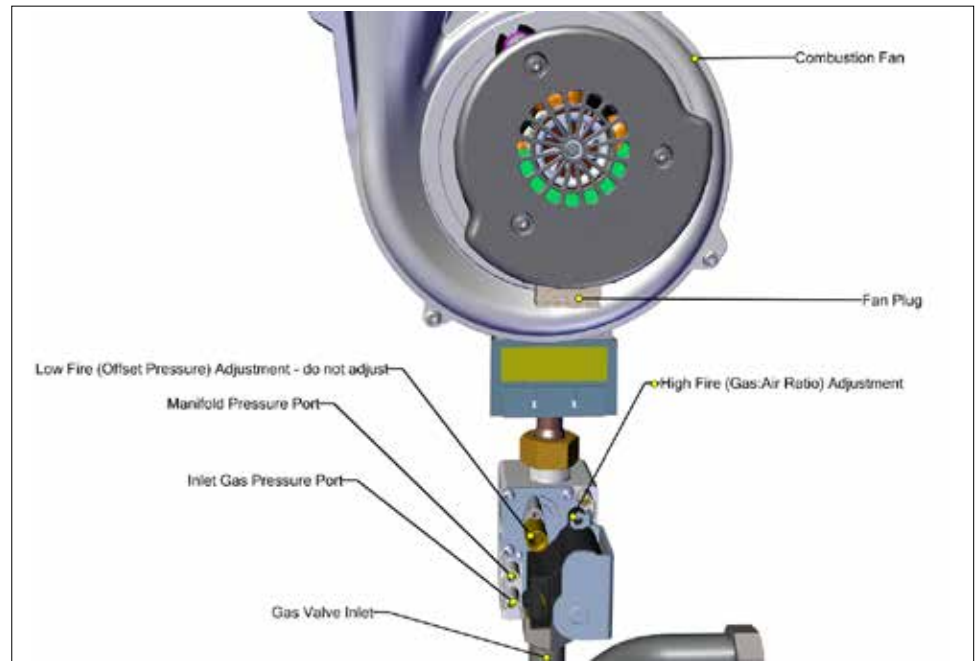

Figure 44: Gas Valve and Pressure Reference System
To verify the proper operation of the gas valve in the field, the following procedure must be carried out by a qualified technician (see *Figure 44* for details of the gas valve and pressure system ).
3. With a combustion analyzer probe in the flue gas test port, turn the Gas:Air Ratio Adjustment screw (see *Figure 44*) to achieve results (see *Table 7* below for the corresponding CO2 values - set the CO2 target at high fire). This screw offers very fine adjustment, and may require several turns.